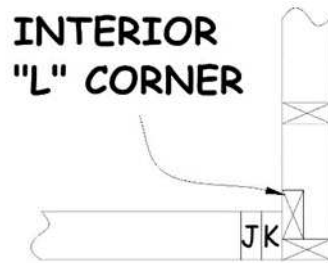

Figure 3-12. Interior L-Corner Configuration.
- At corners and intersections, pay attention to whether a door will be built at that location. If so, make the room wall long and the door wall short, not the other way around. Include an “L-Corner” at the door end of the room wall and lay out the door plates so that the KJ pair abuts the L-Corner (see Figure 3-12). This allows for easy nailing through the “L” into the King stud. This configuration also provides a stronger corner that does not depend on nailing one stud into the edge of another stud. In
2. Recheck wall intersections to determine which wall end should abut the side of the other wall (which wall will be the “long” wall and which will be the “short” wall). This may be dictated by an adjoining door. (See Section 3.6.5 and Figure 3-12 above.)
- c. Where a door will be attached at the end of a bathroom or bedroom wall, mark the end of the wall for a 2x4 L-corner oriented to allow nailing through the L-corner into the King stud of the door (see Figure 3-12). This is similar to the 2x6 L-corners used in the exterior walls.